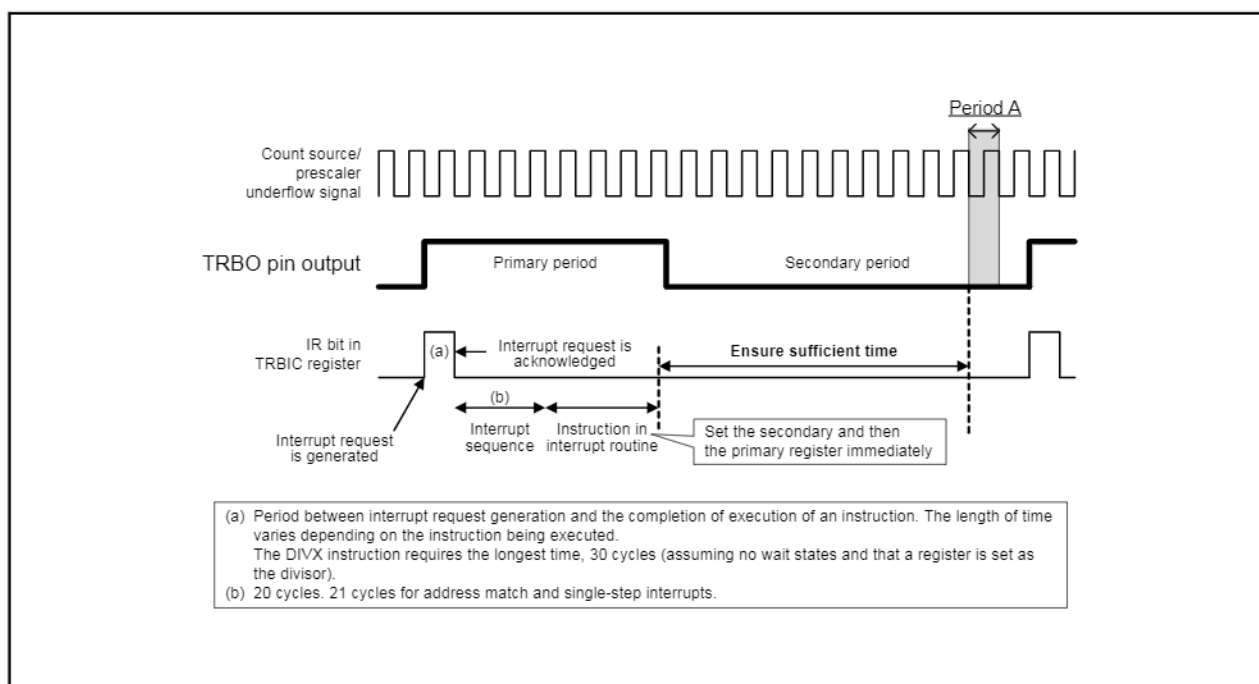

Figure 22.2 Workaround Example (a) When Timer RB interrupt is Used
- (1) To write to registers TRBPRE and TRBPR during count operation (TCSTF bit is set to 1), note the following points:
- (2) To change registers TRBPRE and TRBPR during count operation (TCSTF bit is set to 1), synchronize the TRBO output cycle using a timer RB interrupt, etc. This operation should be performed only once in the same output cycle. Also, make sure that writing to the TRBPR register does not occur during period A shown in Figures 22.2 and 22.3.
As shown in Figure 22.2, write to registers TRBSC and TRBPR in the timer RB interrupt routine. These write operations must be completed by the beginning of period A.